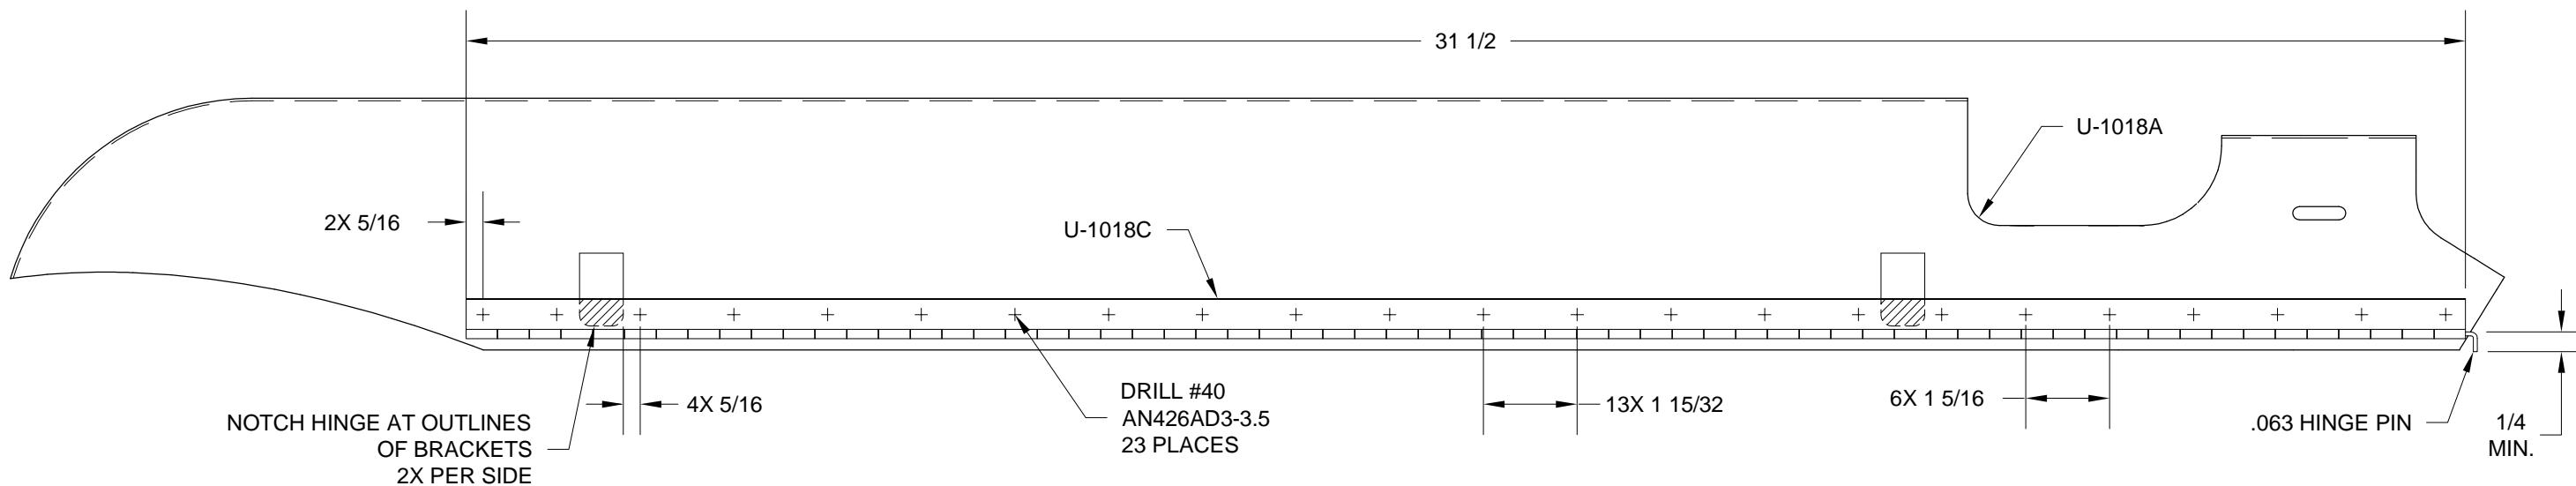

FIGURE 2: NOTCHING, DRILLING AND RIVETING THE PIANO HINGE
Step 2: Remove the U-1018C Nose Gear Leg Hinge from inside the U-1018A Nose Gear Leg Fairing. Lay the fairing on its side and draw a rivet centerline the length of the fairing by connecting the two marks made in the previous step. Lay out the rivet pattern as depicted in Figure 2. Flip the fairing over and lay out the rivet pattern for the other side.